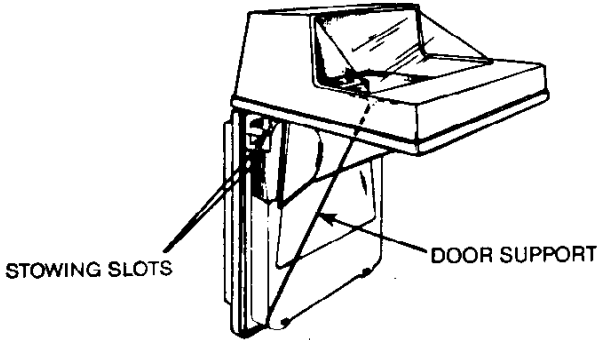

FIGURE 6.
2. Locate door support along the left edge of the reflector (Figure 6.) Pull support out and insert end into molded-in hole provided inside front cover at bottom edge of lens.